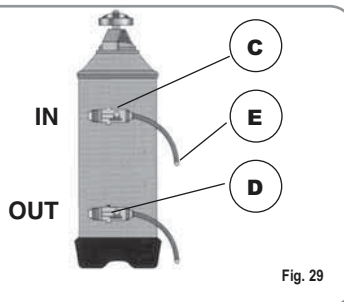

Fig. 29
1) Turn the machine off and place a container large enough to contain at least 5 litres under tube E (Fig. 29).